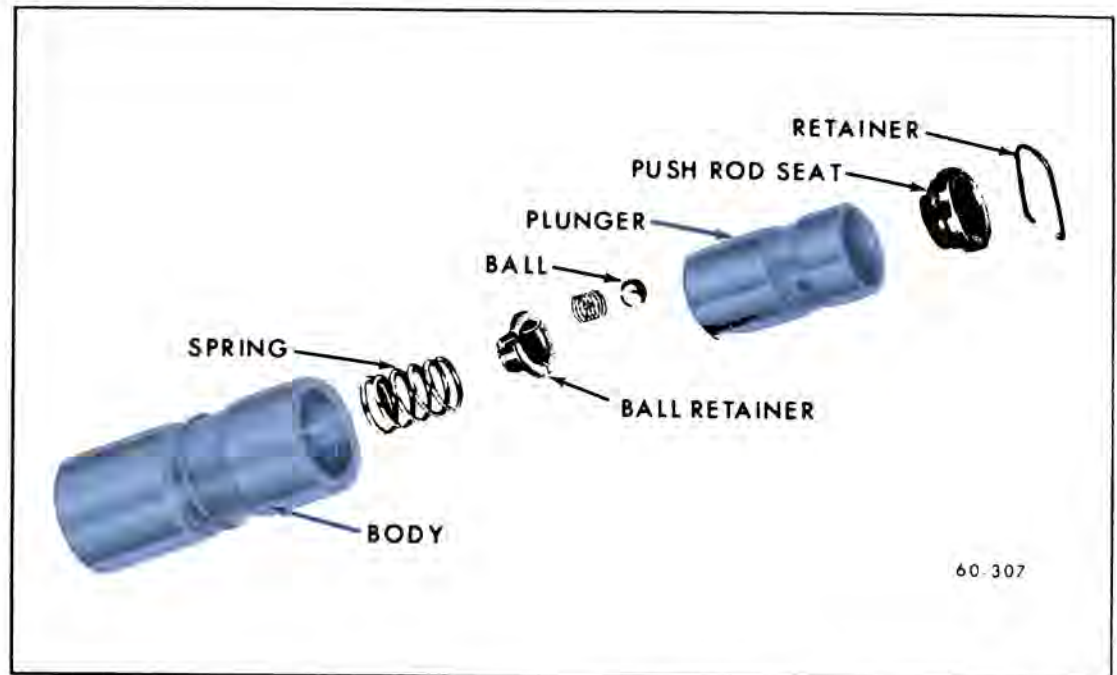

Figure 60-221—Hydraulic Valve Lifter Parts
16. Hold plunger in vertical position with feed hole up, then rinse and install the check ball, check ball spring, ball retainer, spring, and body over the plunger. See parts in Figure 60-221.